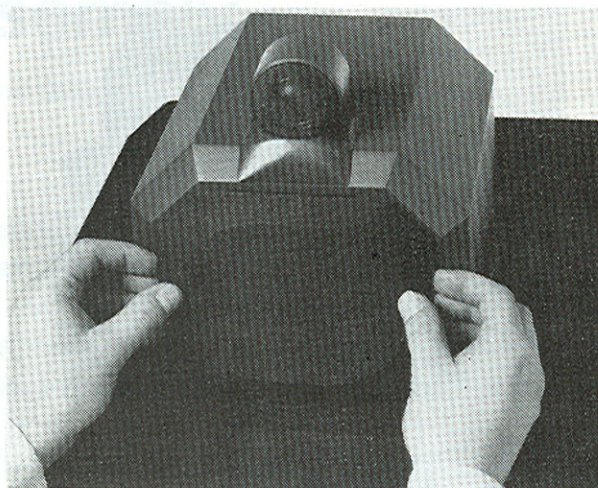

Fig. 10
- (A) Remove the mid-frequency driver grille cover by placing fingers either side of the cover and withdraw it parallel to the head (Fig. 10).